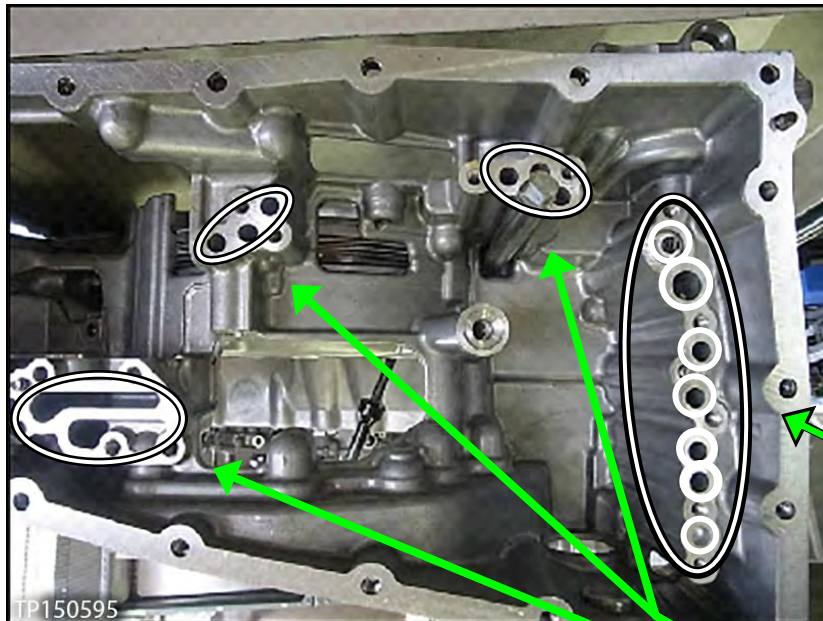

Figure 44
1. Spray in all oil passages in the CVT case where shown in Figure 44.